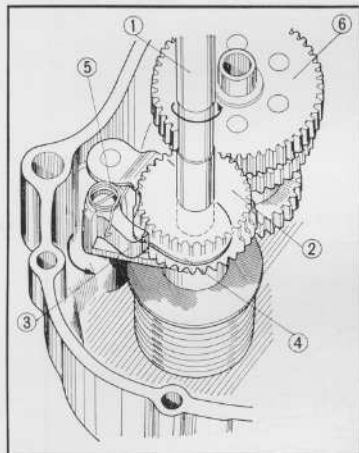

Fig. 3.108 Kick starter mechanism
As shown in Fig. 3.108, when the kick starter spindle ① is rotated by a kick, the kick starter ratchet flange ③, is rotated simultaneously.